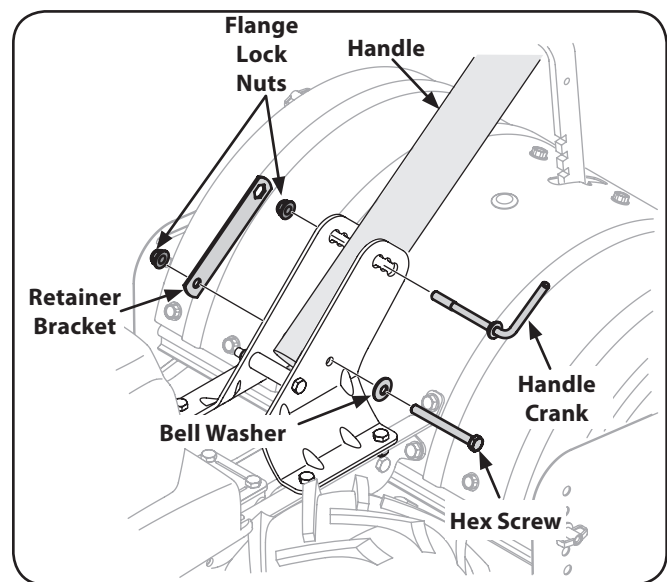

**Figure 3-1**
2. Insert the handle into the handle mounting brackets, lining up the pre-drilled holes. Insert the  $\frac{5}{16}$ -18 x 3.00 hex screw through the bellville washer and into the bottom hole from the left hand side through to the right side. Place the round hole end of the retainer bracket over the hex screw and secure loosely with a  $\frac{5}{16}$ -18 flange lock nut removed earlier. See Figure 3-1.
3. Install the handle crank into the top hole of the mounting bracket from the left hand side of the handle assembly, secure with the other flange lock nut previously removed. Fit the hex end of the retainer bracket over the flange lock nut. See Figure 3-1.